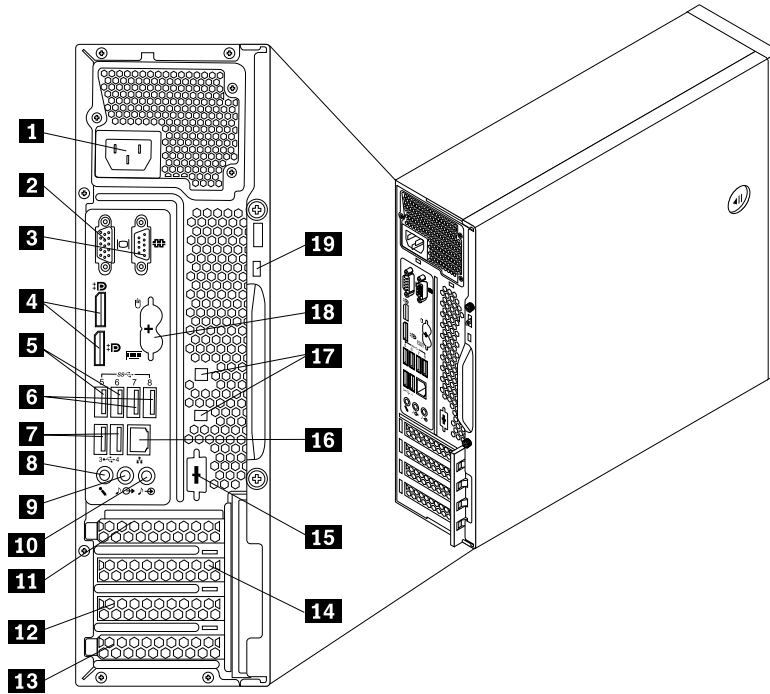

Figure 9. ThinkCentre M93/p rear connector locations
- Figure 9 “ThinkCentre M93/p rear connector locations” on page 77 shows the locations of the connectors on the rear of the ThinkCentre M93/p computer. Some connectors on the rear of your computer are color-coded to help you determine where to connect the cables on your computer.